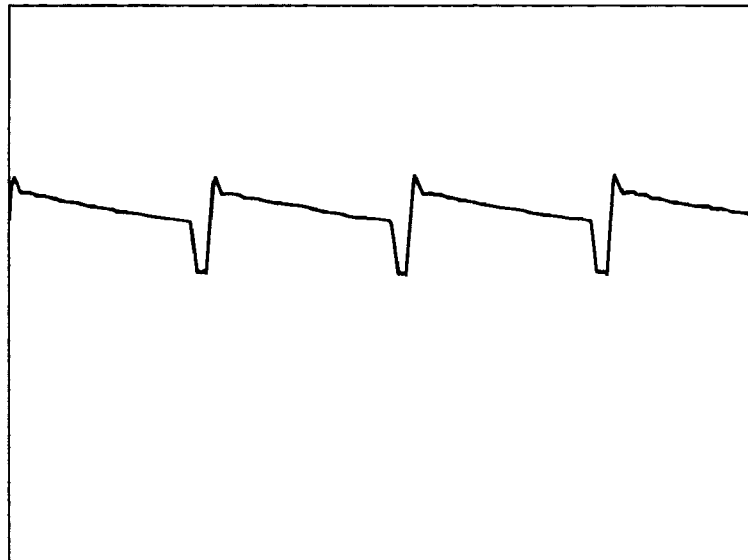

Figure 13-4. Buck Regulator Waveform
22. Short TP401 to TP102. Check TP103 for a waveform similar to that in Figure 13-4.